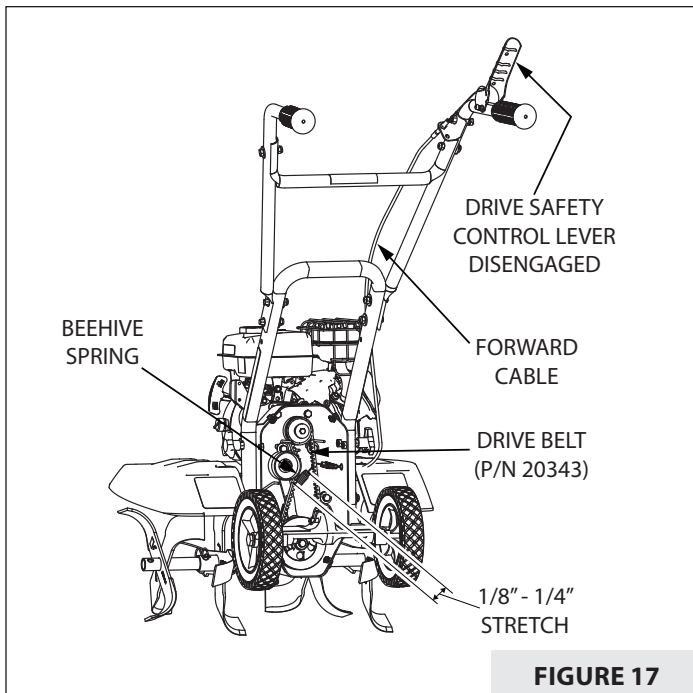

FIGURE 17
5. Pull down on drive safety control lever and measure length of spring when extended. Ideal length is 1/8" - 1/4" longer. **SEE FIGURE 17.**